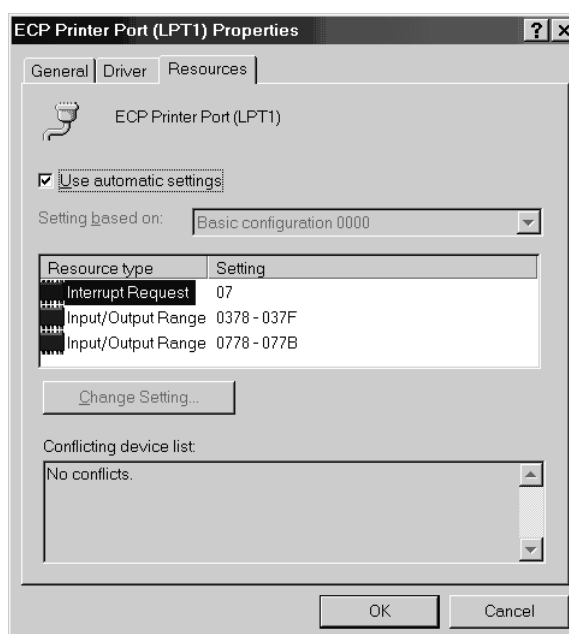

Figure C-1: Printer Port (LPT) Properties dialog box
- 6 Click Printer Port (LPT2), or other entry for the installed port, and then select the Properties button. The Printer Port (LPT2) Properties dialog box appears (see Figure C-1).